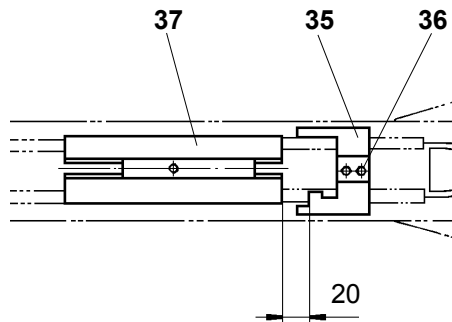

Fig. 14
- Adjust the stop piece in the drive unit for the OPEN position (35). Slightly loosen the screws (36) and push the stop piece until it touches the sliding carriage (37). Then push the stop piece back by approx. 5 mm (measure 20 mm) and tighten the screws (36). Fig. 14